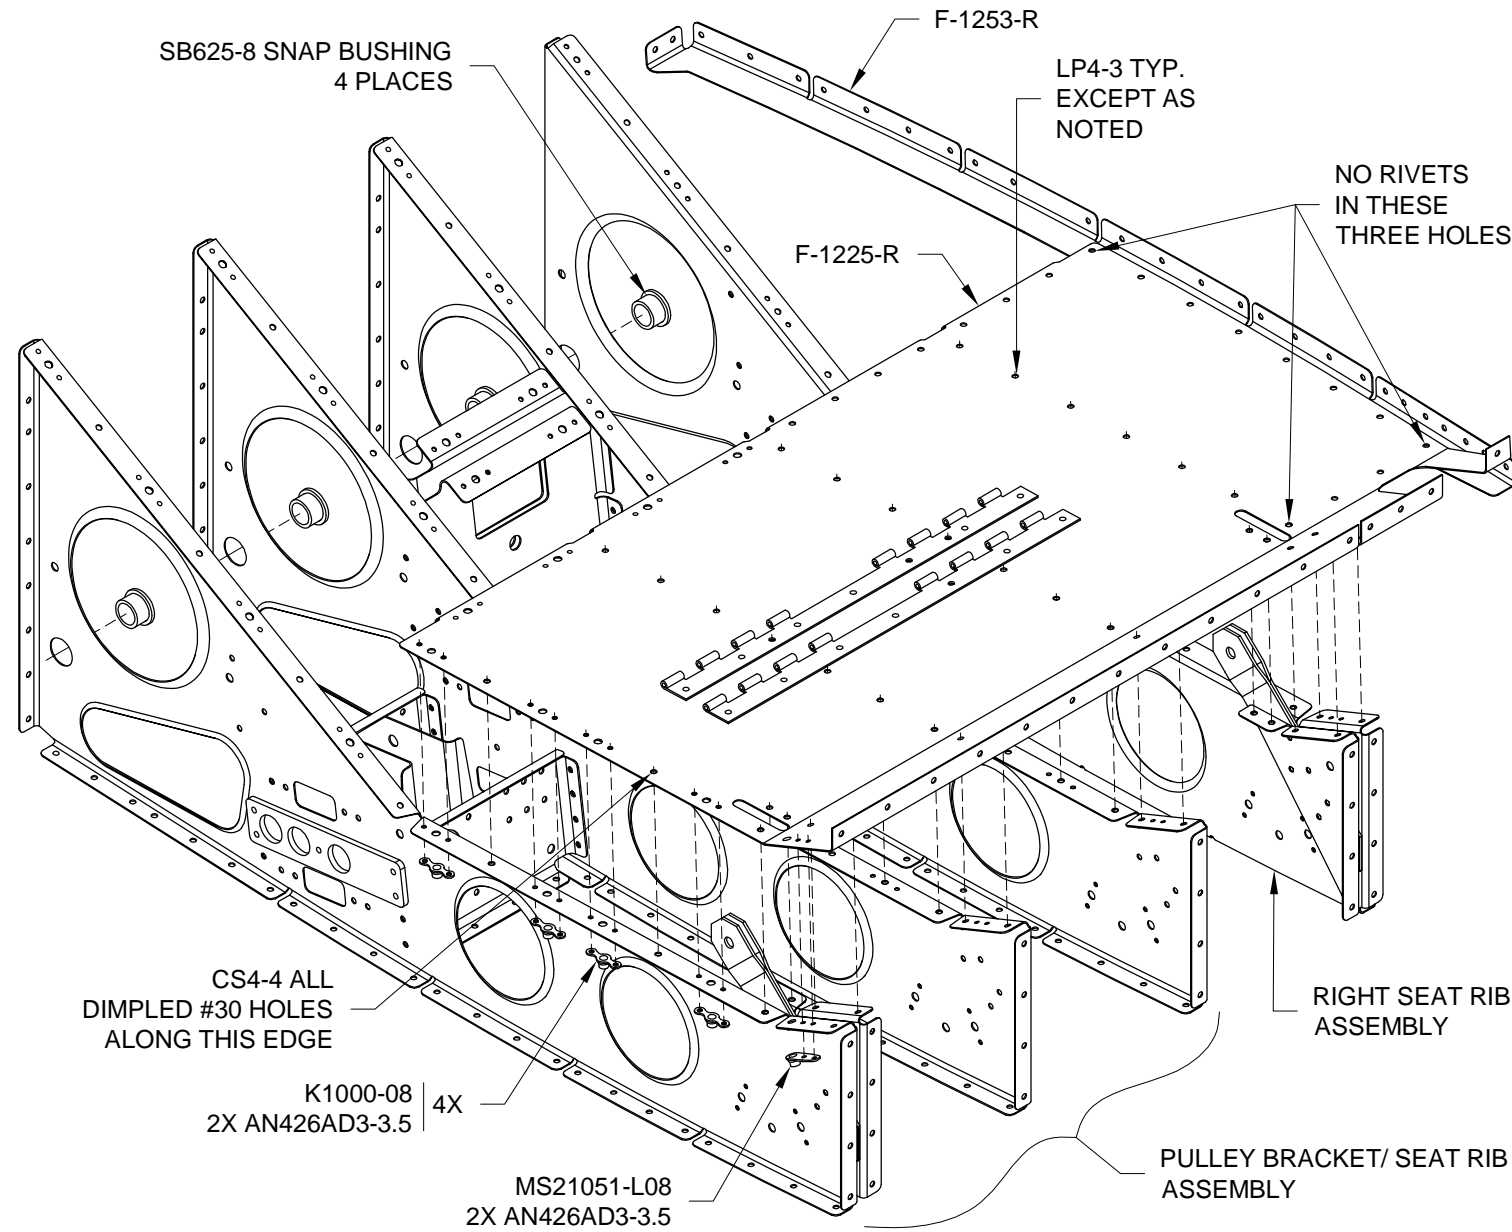

FIGURE 1: RIGHT SEAT FLOOR ASSEMBLY
Step 3: Using the rivets called out in Figure 1, rivet the F-1253-R Seat Floor Support to the bottom of the F-1225-R Seat Floor as shown. Do not install a rivet in the aft most and forward most hole as indicated.
Step 4: Install the snap bushings called out in Figure 1.